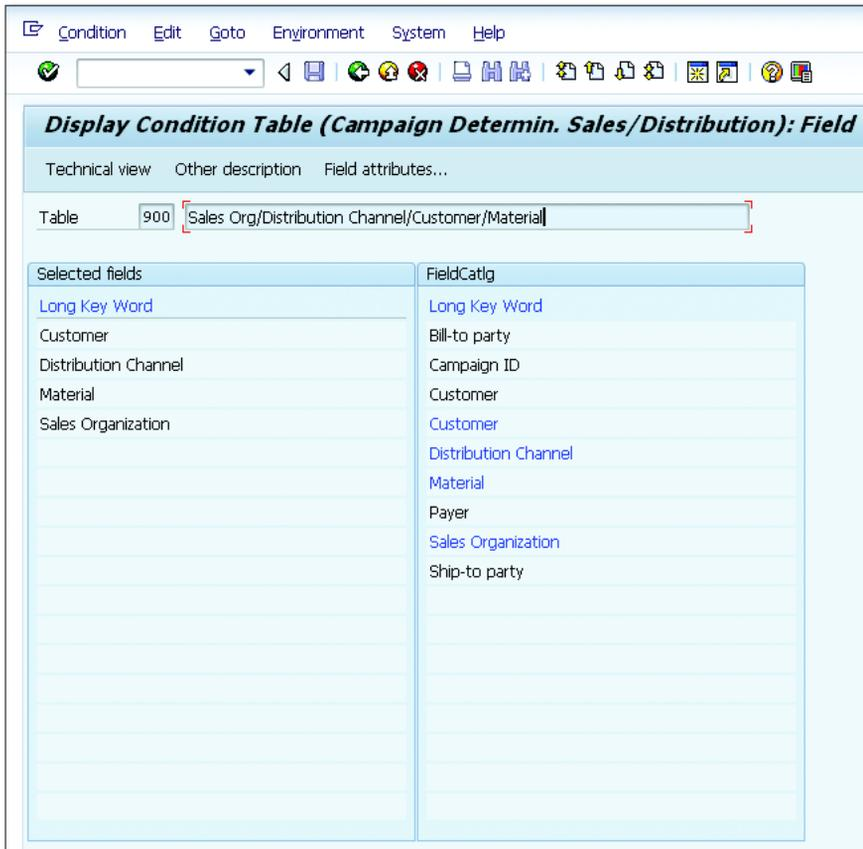

Figure 4.45 Maintain Condition Tables in SAP ERP
1. Maintain the condition tables in SAP ERP. To access this function, go to SPRO • INTEGRATION WITH OTHER SAP COMPONENTS • CUSTOMER RELATIONSHIP MANAGEMENT • BASIC FUNCTIONS • CAMPAIGN DETERMINATION • MAINTAIN CONDITION TABLES. Figure 4.45 shows the condition TABLE 900 created with the fields CUSTOMER, DISTRIBUTION CHANNEL, MATERIAL, and SALES ORGANIZATION. Just like